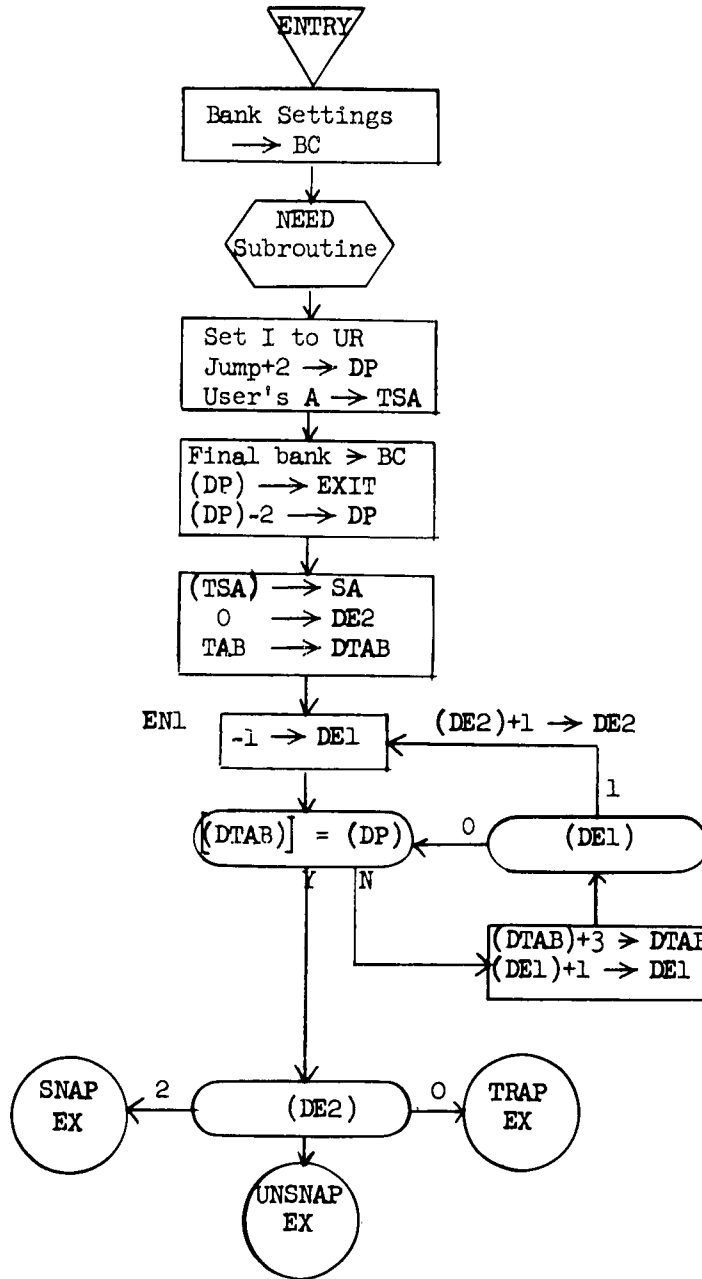

Figure 7.42 ENTRY
7.4 ENTRY Subroutine - TRAP, SNAP or UNSNAP Execution (Figure 7.42)